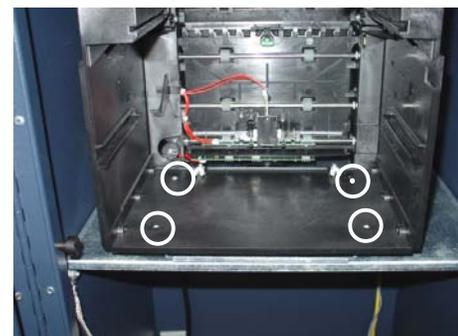

Figure 5. Remove mounting screws.
4. Remove the note and reject cassettes. Using a phillips-head screwdriver, remove the four (4) screws that secure the dispenser to the swivel platform (Figure 5, below). Remove the TDM-100 dispenser mechanism.